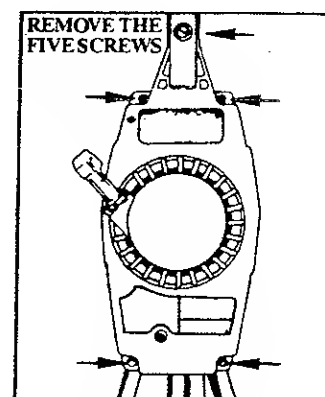

Figure 23
4. Remove the five screws from fan housing. Figure 23.